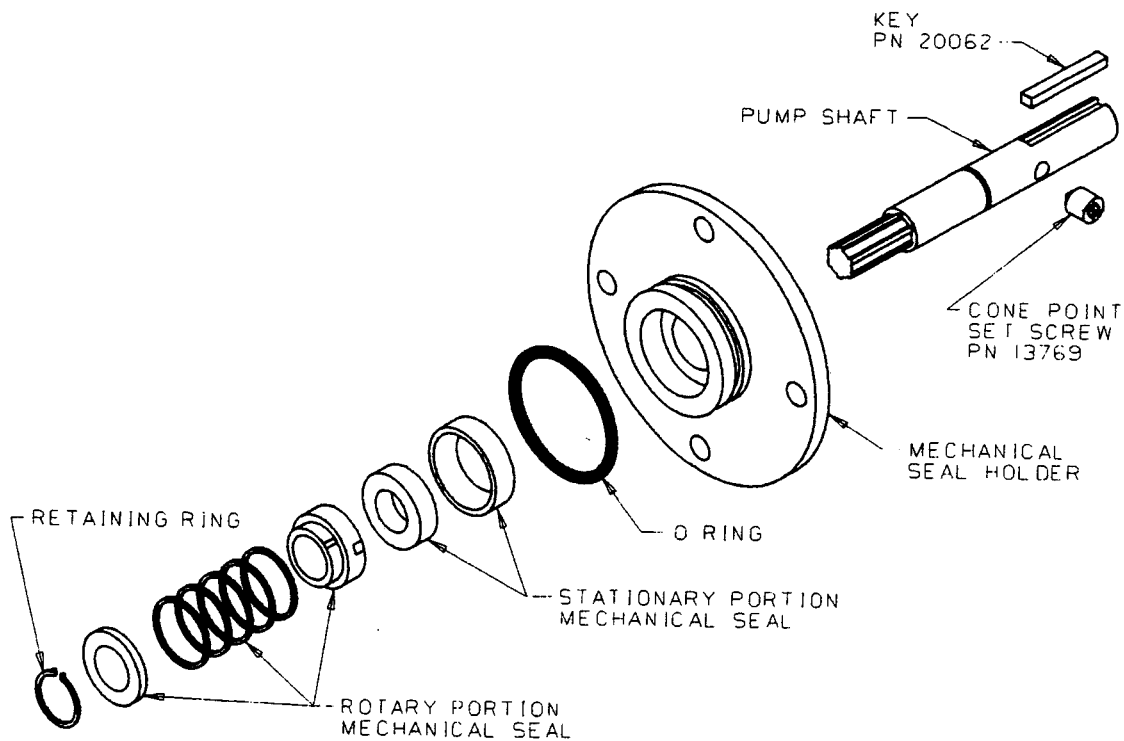

Figure 6.3
1. Remove the set screw which holds the pump shaft in the bearing frame. This is done by inserting a 3/16-inch Allen wrench in one of the access holes on either side of the bearing frame toward the liquid end (Figure 6.3). Rotate the pump shaft until the Allen wrench may be inserted into the set screw. Remove the set screw.
2. Remove the four (4) 5/16-inch bolts and lockwashers that fasten the inlet housing to the bearing frame. Separate the liquid end from the bearing frame.
5. Remove the rotary portion (spring, washer, and face assembly) of the seal assembly from the pump shaft by rotating and pulling the rotary portion until it slides off the pump shaft (Figure 6.3).
Remove the liquid end from the bearing frame by following Section 6.1, Steps 1 and 2 (Figure 6.3).